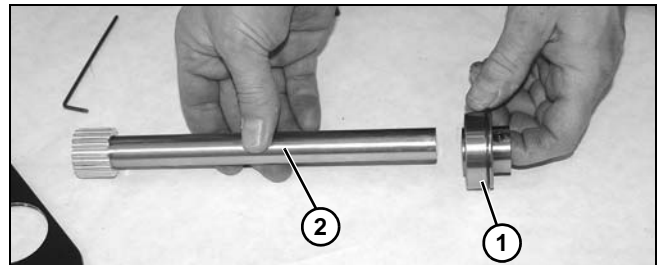

Figure 131
23. Loosen set screw on second driveshaft bearing assembly (**Figure 131, item 1**), and remove off of driveshaft (**Figure 131, item 2**).